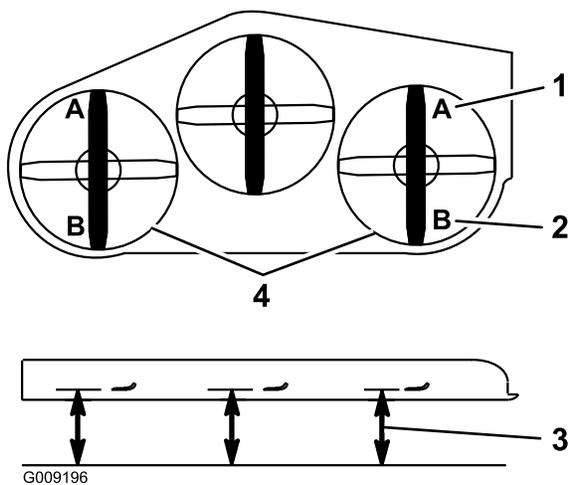

Figure 109
9. On both sides of the deck, measure from the level surface to the front tip of the blade (Position A) as shown in Figure 109.
15. On both sides of the deck, measure from the level surface to the back tip of the blade (position B) as shown in Figure 109.